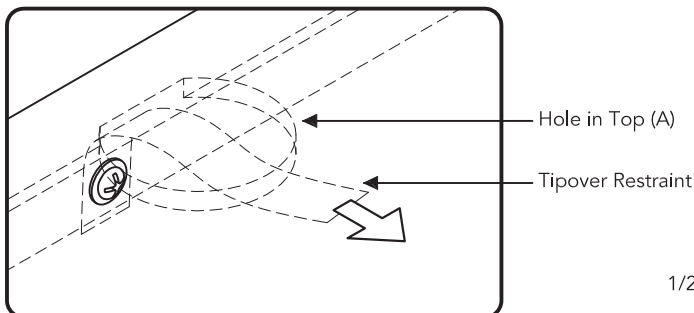

Figure 5
Move unit back into place and insert Tipover Restraint into unit through hole in Top (A). (See Figure 5)